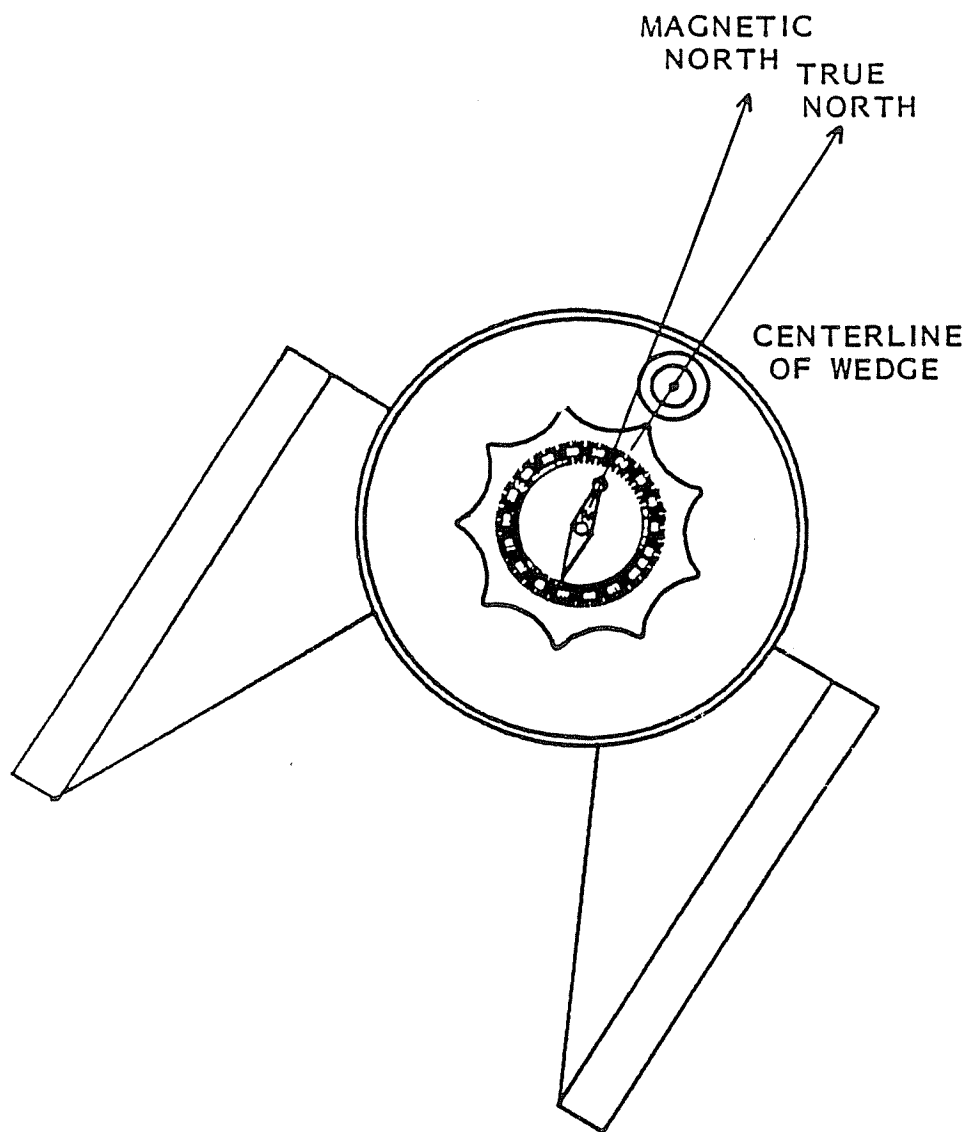

Figure 5
3. By rotating the Equatorial Wedge in azimuth, position the point of the knob/compass so that it points directly to the center of the bubble level (Figure 5). The centerline of the Equatorial Wedge now falls directly on the true north line.